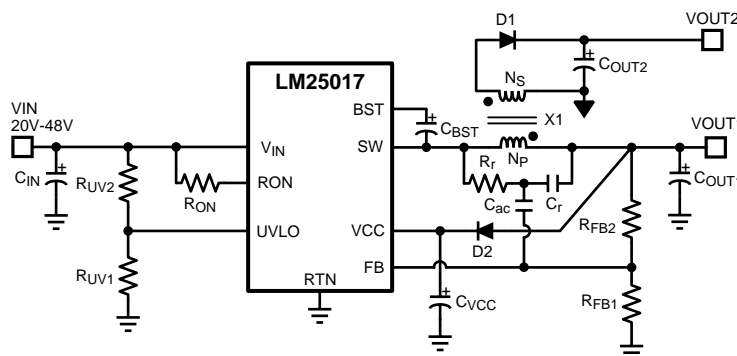

Figure 16. Typical Isolated Application Schematic
An isolated supply using LM25017 is shown in Figure 16. Inductor (L) in a typical buck circuit is replaced with a coupled inductor (X1). A diode (D1) is used to rectify the voltage on a secondary output. The nominal voltage at the secondary output ( $V_{OUT2}$ ) is given by: